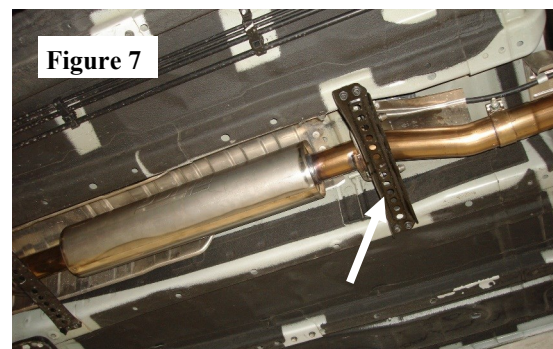

Figure 7
3. Place 2.00" clamp over expanded end of **R/H Muffler Assembly** and insert into right-side **Intermediate Muffler Assembly** outlet. Insert hangers into rubber isolators. (See Fig. 7)